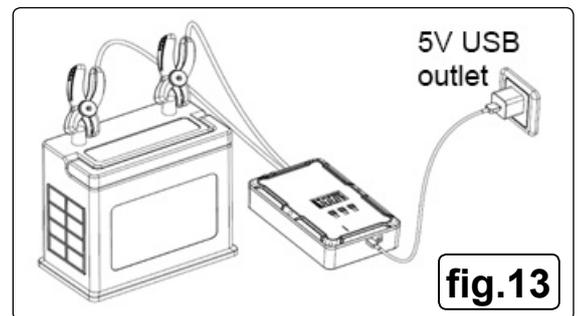

fig.13
5.10.1.1. Connect the E/START as in fig.13 and press the charger button (fig.10) to commence charging or maintaining battery voltage.